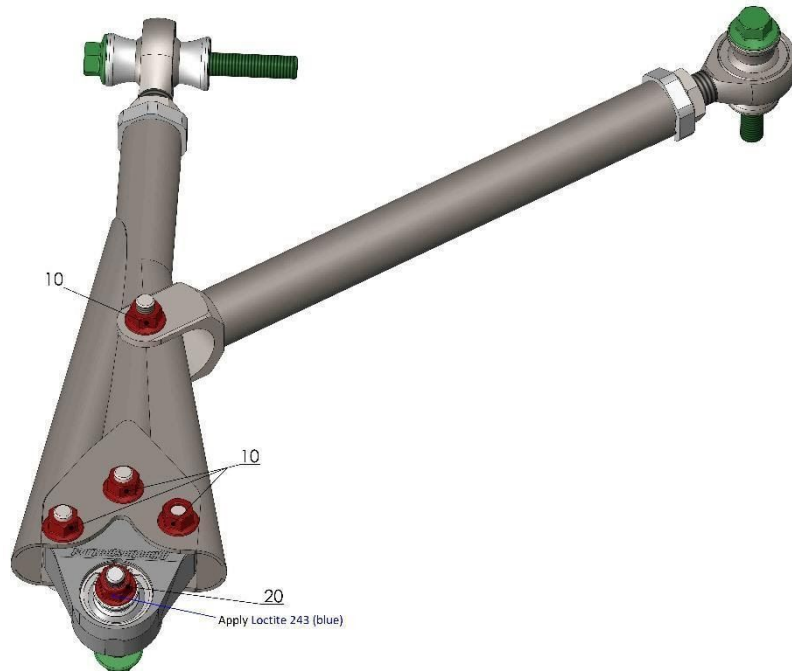

Figure 2 Front tubular wishbone assembly (OEM parts – green, one time use only parts – red).
- Install pivot pin inside knuckle and tighten nut (Number 20 on Figure 2). **Secure thread with Loctite 243 (Blue). Tightening torque 60 Nm.**
- Tighten nuts (Number 10 on Figure 2).